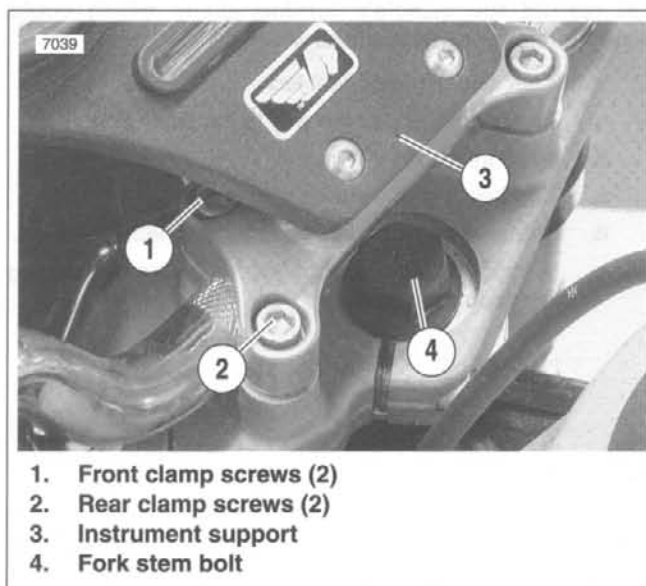

Figure 2-108. Loosening Handlebars
- b. See Figure 2-108. Remove the two front clamp screws (1).
- c. Remove both rear clamp screws (2) and instrument support (3).
5. See Figure 2-108. Slowly loosen fork stem bolt (4) until forks drop 0.5 in. (12.7 mm) in triple clamps.
3. See Figure 2-108. Tighten fork stem bolt and triple clamp screws. Check bearing adjustment. See 1.19 STEERING HEAD BEARINGS.